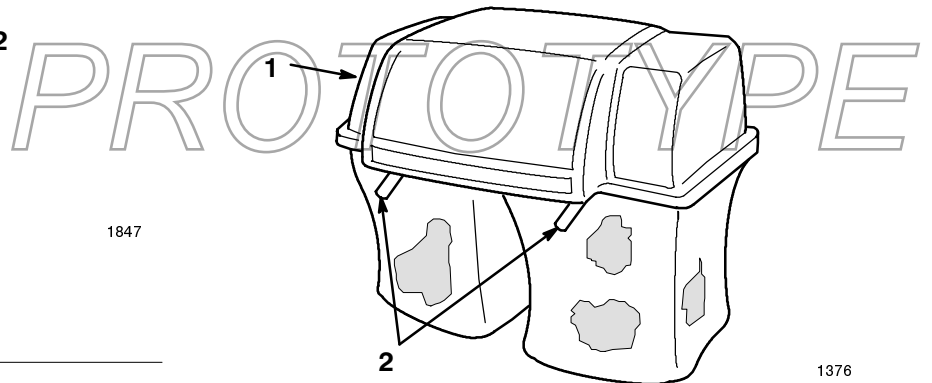

Figure 23
2. Raise the bagger top and remove the grass bags from the bag frame (Fig. 23).